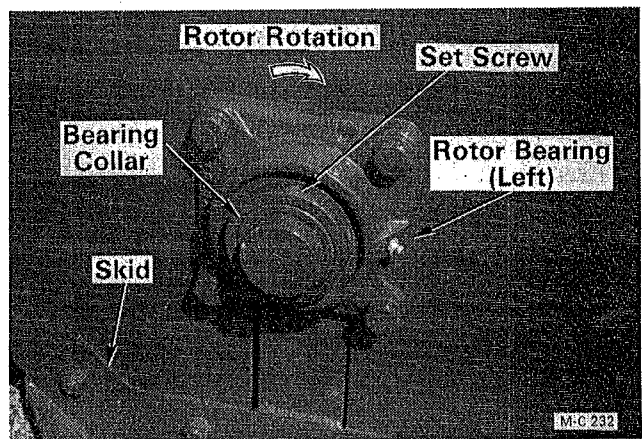

Figure 27
- A. Remove the left skid, see Figure 27.